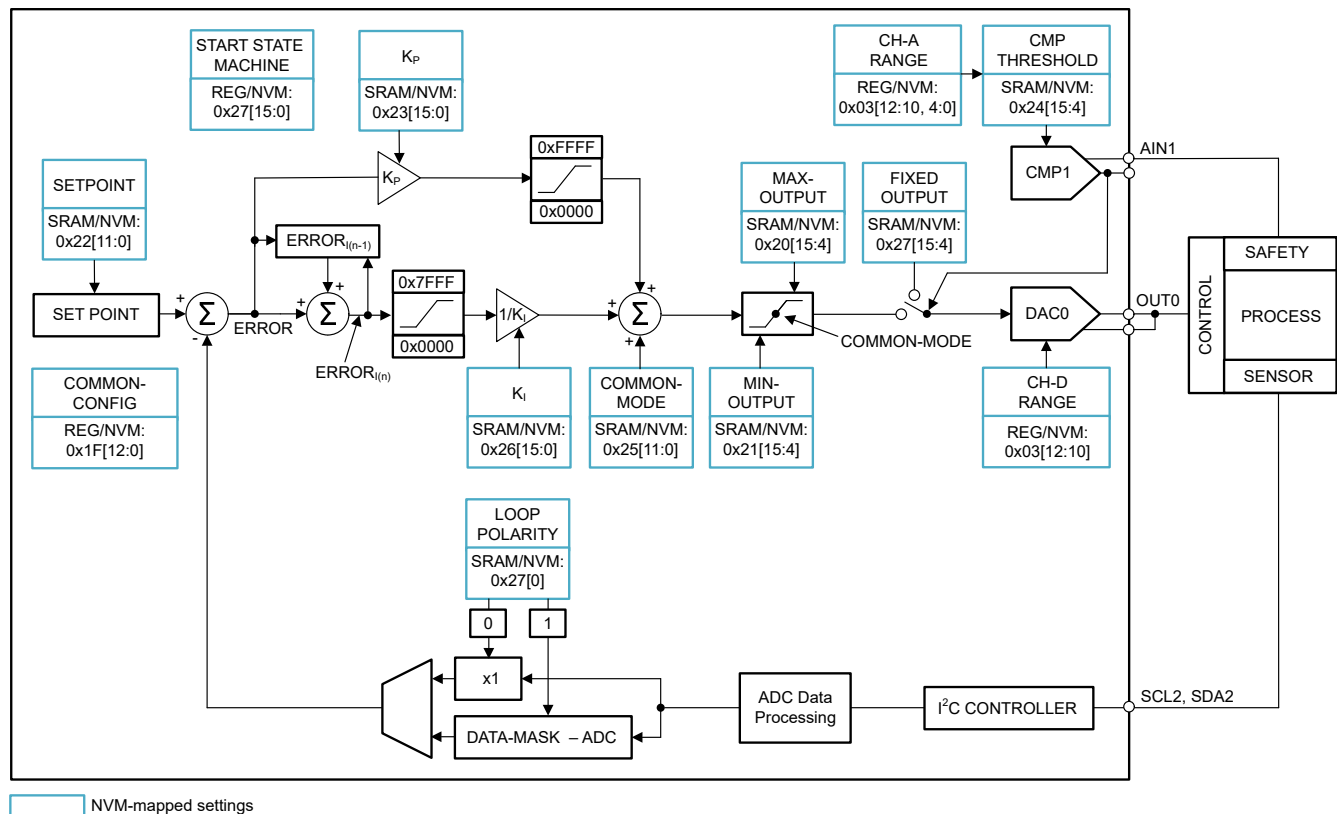

図 7-9. PI Controller Architecture of AFE639D2
The AFE639D2 provides a preprogrammed PI controller state machine, as shown in 図 7-9. An external digital temperature sensor is used as the input and DAC channel 0 is used as the output. DAC channel 1 is used as a comparator that is used to set the output of DAC channel 0 to a value specified by the FIXED-OUTPUT field. 表 7-13 lists all the input/output pin names and functions.
2. Connect the external temperature sensor or ADC input, comparator input, and DAC output as shown in Figure 7-9.